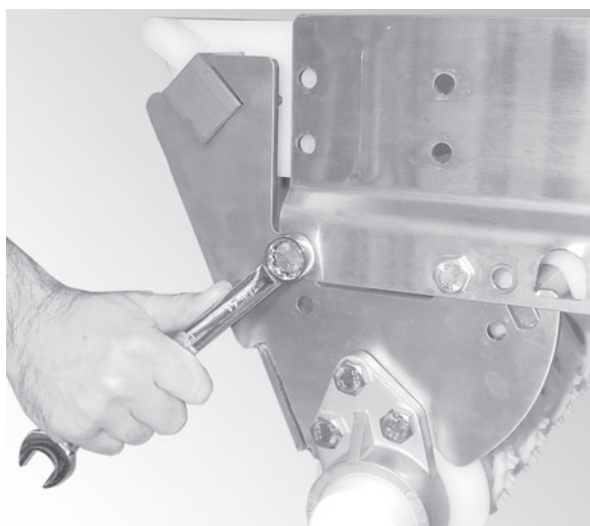

Figure 7
1. Bolt the nose bar drive tail assembly to the conveyor frame (**Figure 7**).